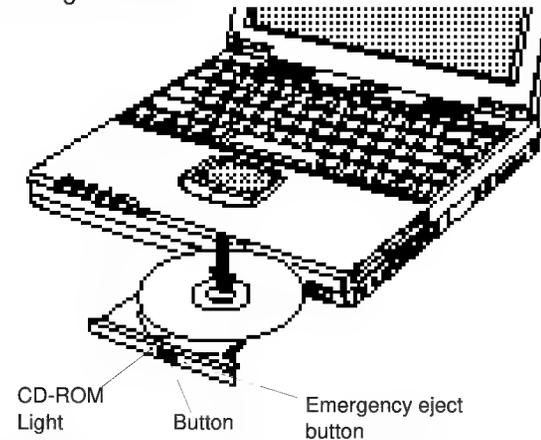

Figure 13. Using the CD-ROM Drive
3. Push the tray in gently to close the drive tray (Figure 13).